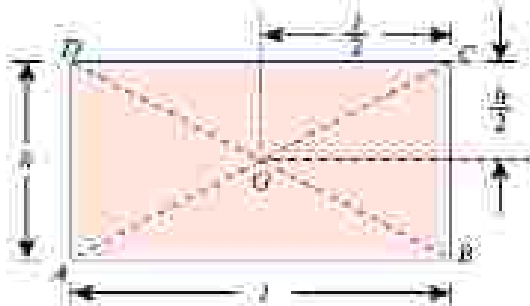

Fig. 6.1. Rectangle
2. The centroid of a rectangle (or a parallelogram) is at the point, where its diagonals meet each other. It is also a middle point of the length as well as the breadth of the rectangle as shown in Fig. 6.1.